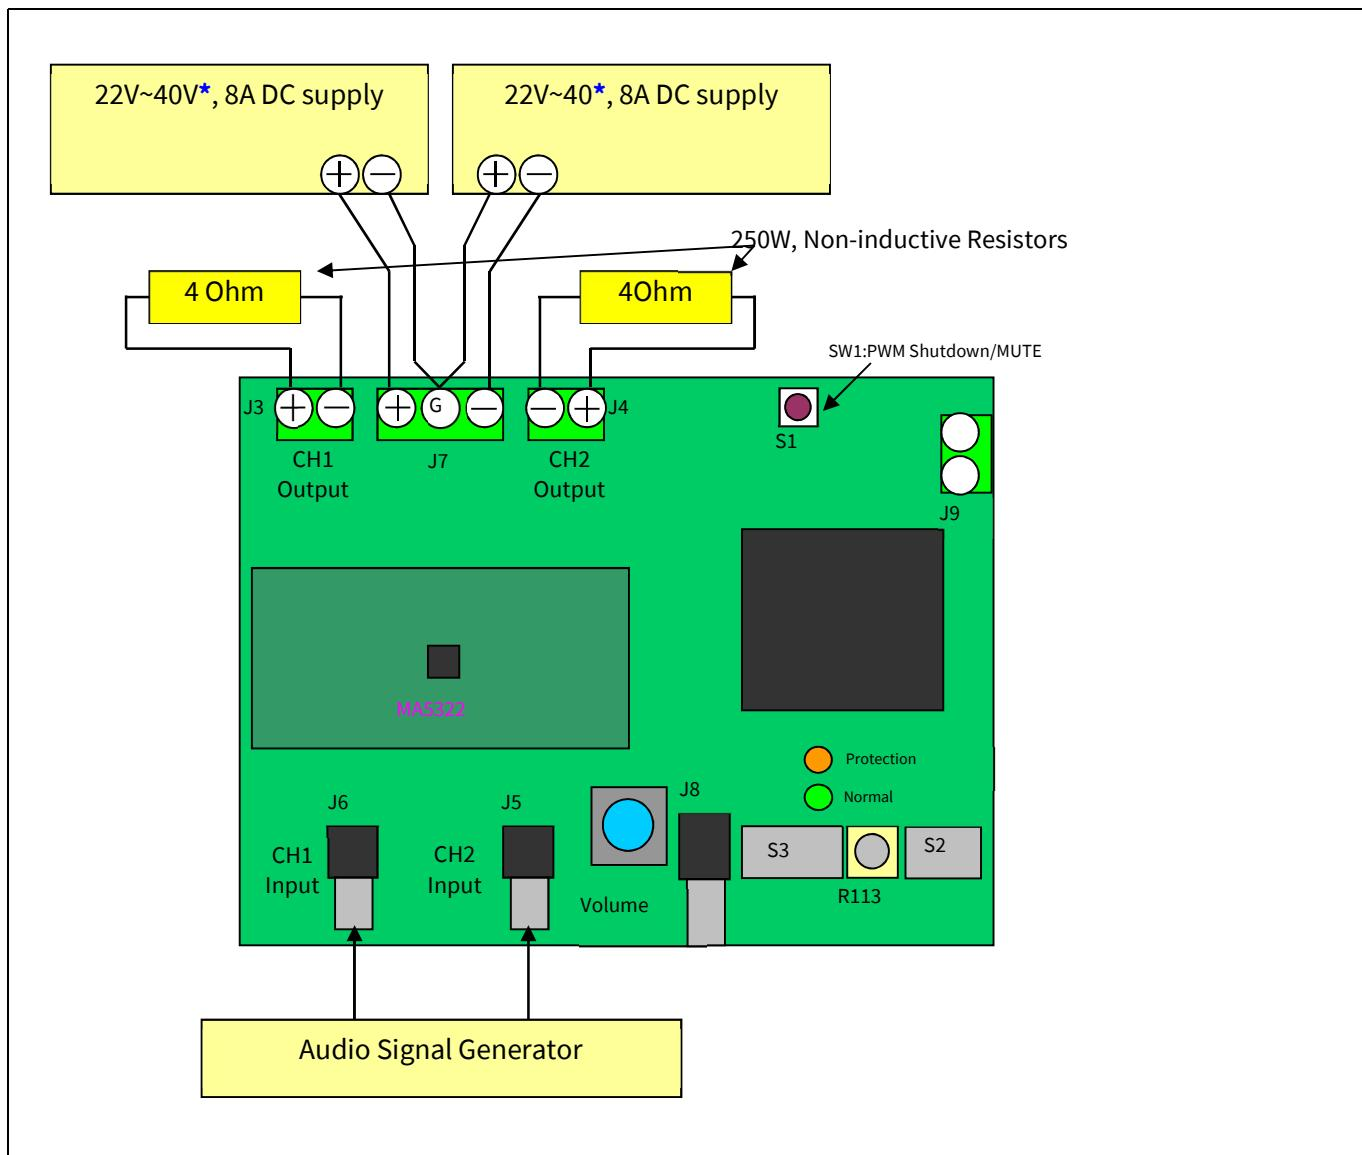
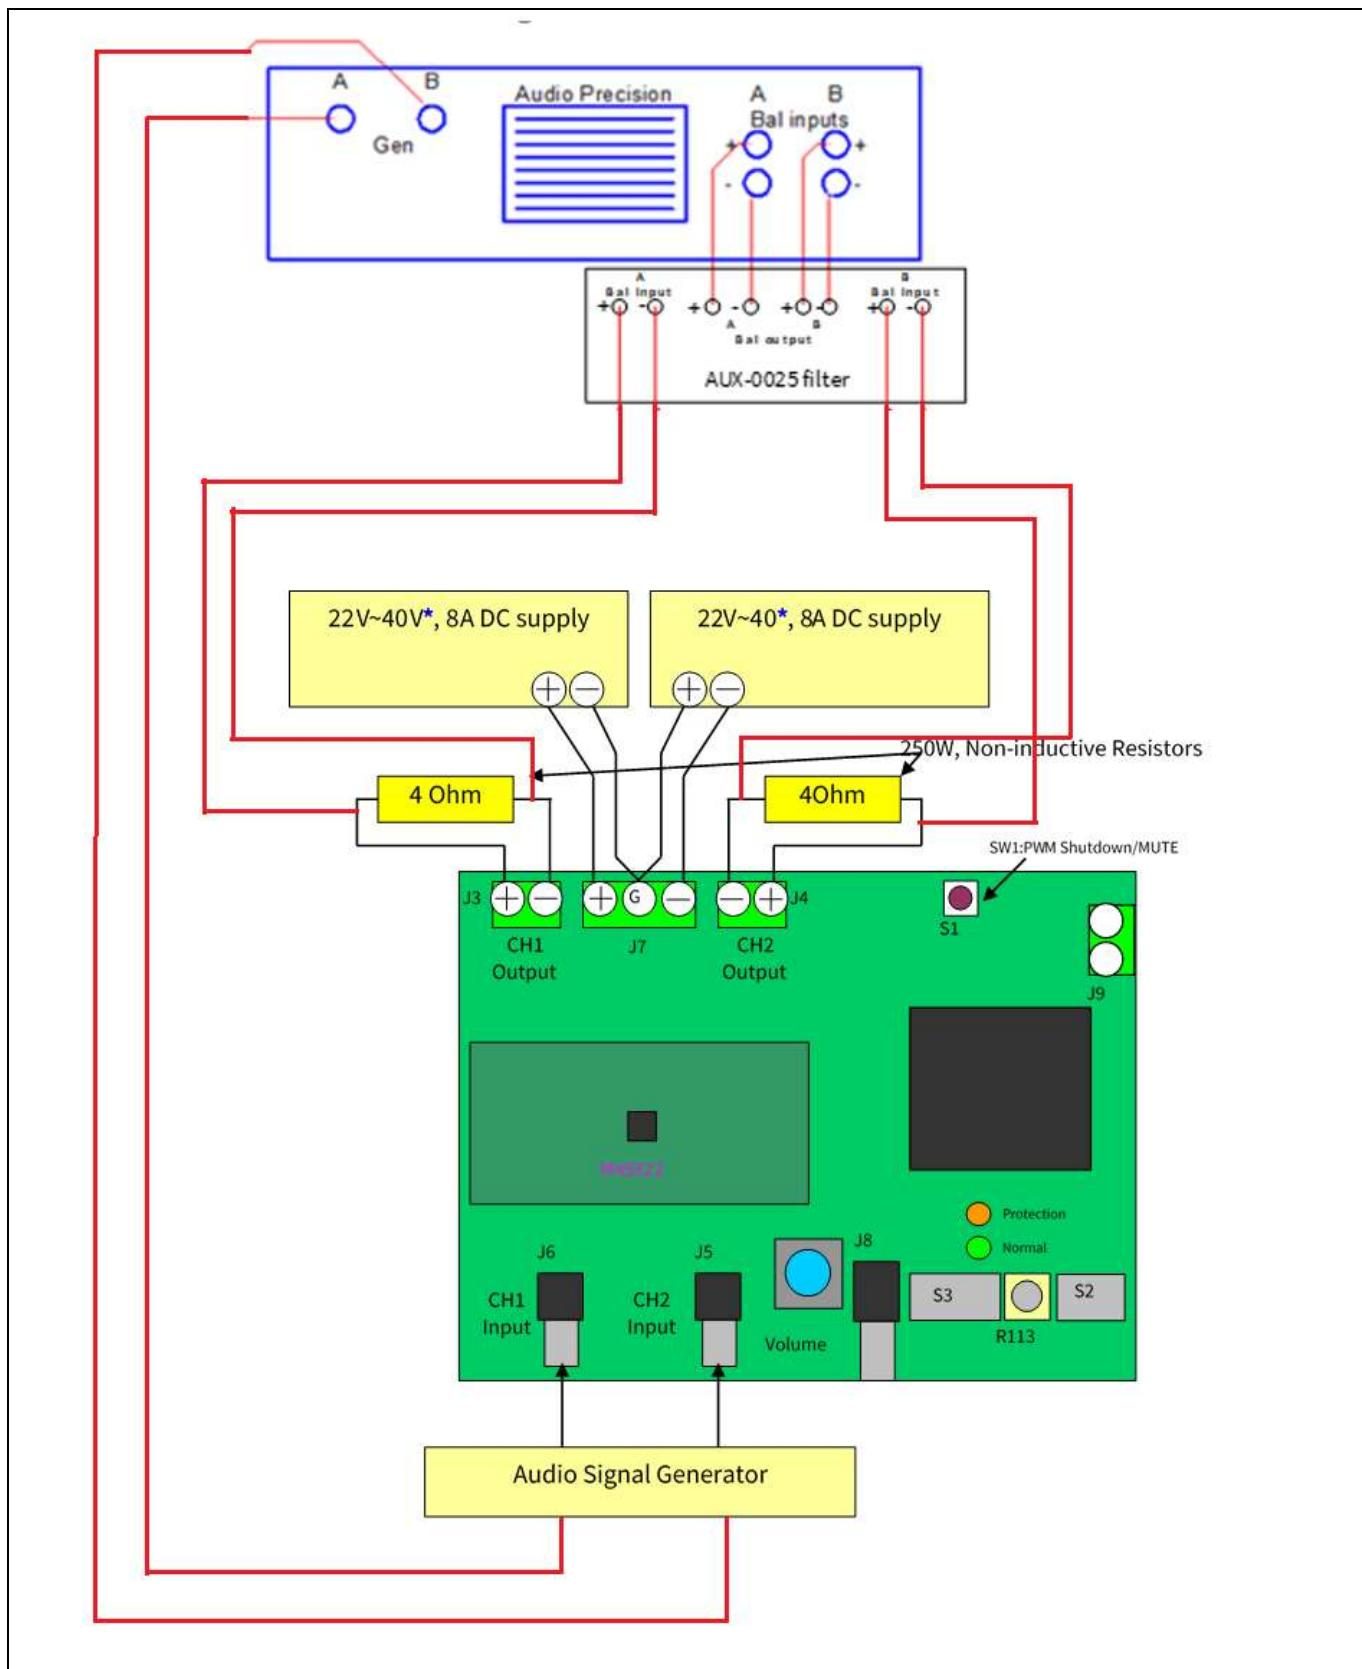

Figure 2 Typical connection connector description
Figure 3 Audio analyzer connection
1. Connect $4\ \Omega$ 250 W dummy loads to output connectors (J3 and J4 as shown in Figure 2) and parallel it with the input of the Audio Precision (AP) analyzer.
2. Connect the Audio Signal Generator (ASG) to J6 and J5 for CH1 and CH2 respectively (AP).
7. Connect the dual power supply to J7, as shown in Figure 2 or Figure 3